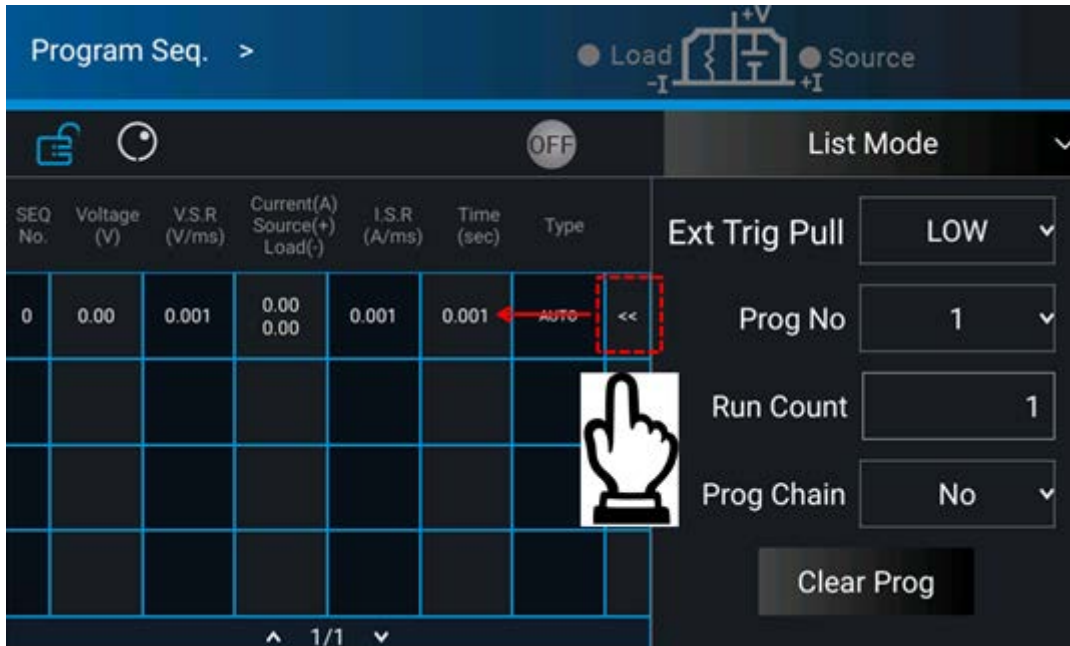
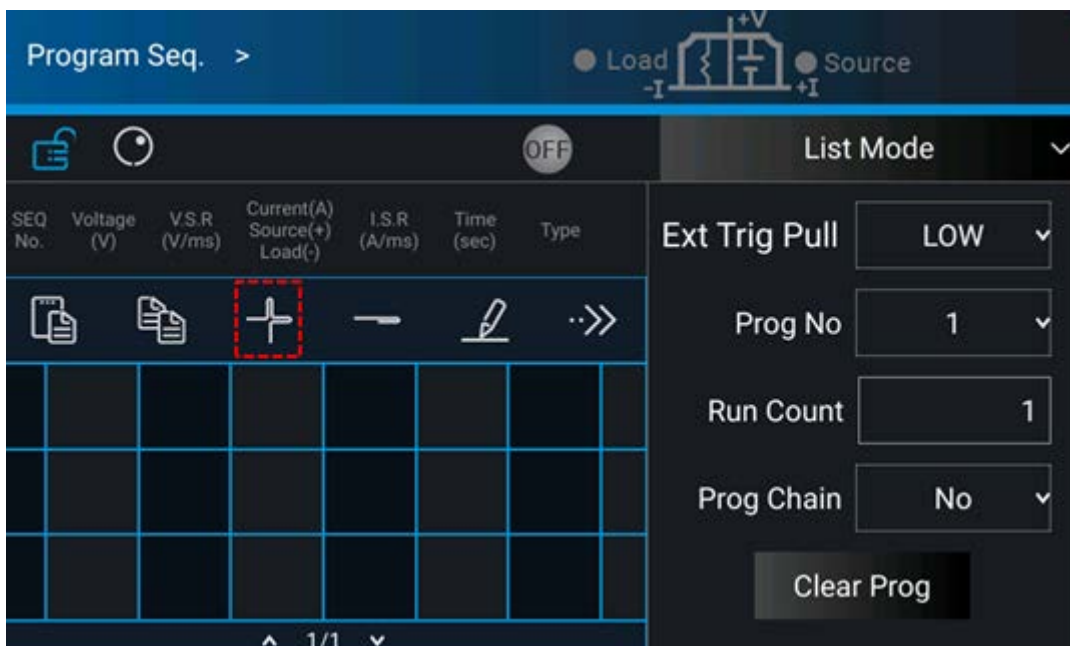
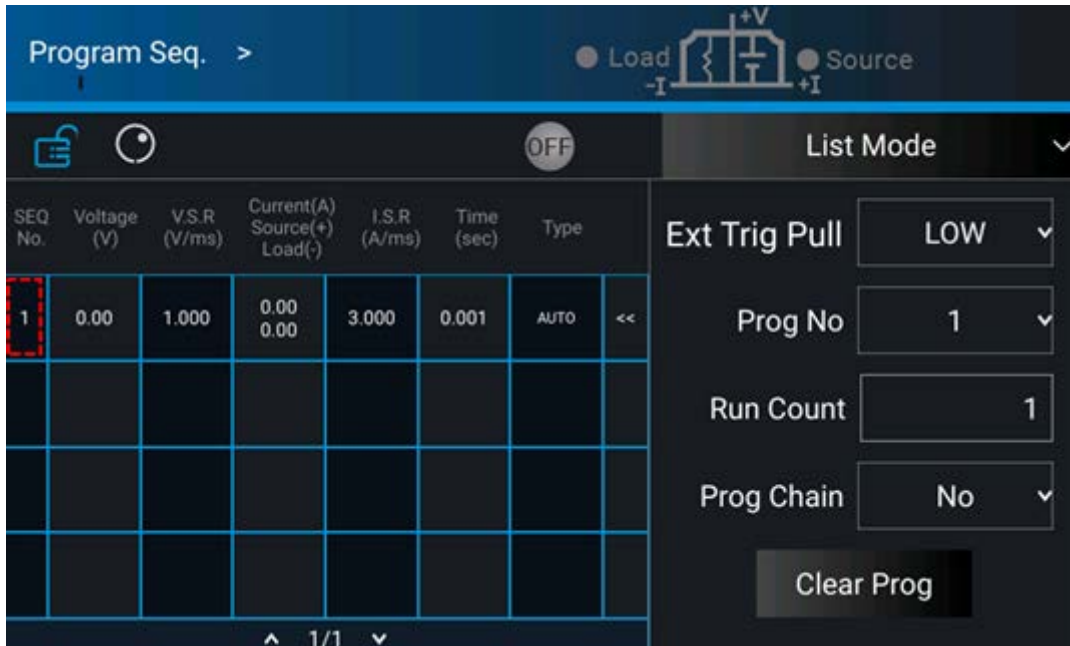

Figure 4-8
Figure 4-9
Figure 4-10
- a. In the Program Seq. page (Figure 4-8), drag the “<<” boxed in red dot line to show a hidden function bar as shown in Figure 4-9.
- b. Select the red dot line box in Figure 4-9 to add a new sequence. Check if the SEQ No. column turns to 1 from 0 as Figure 4-10 shows.